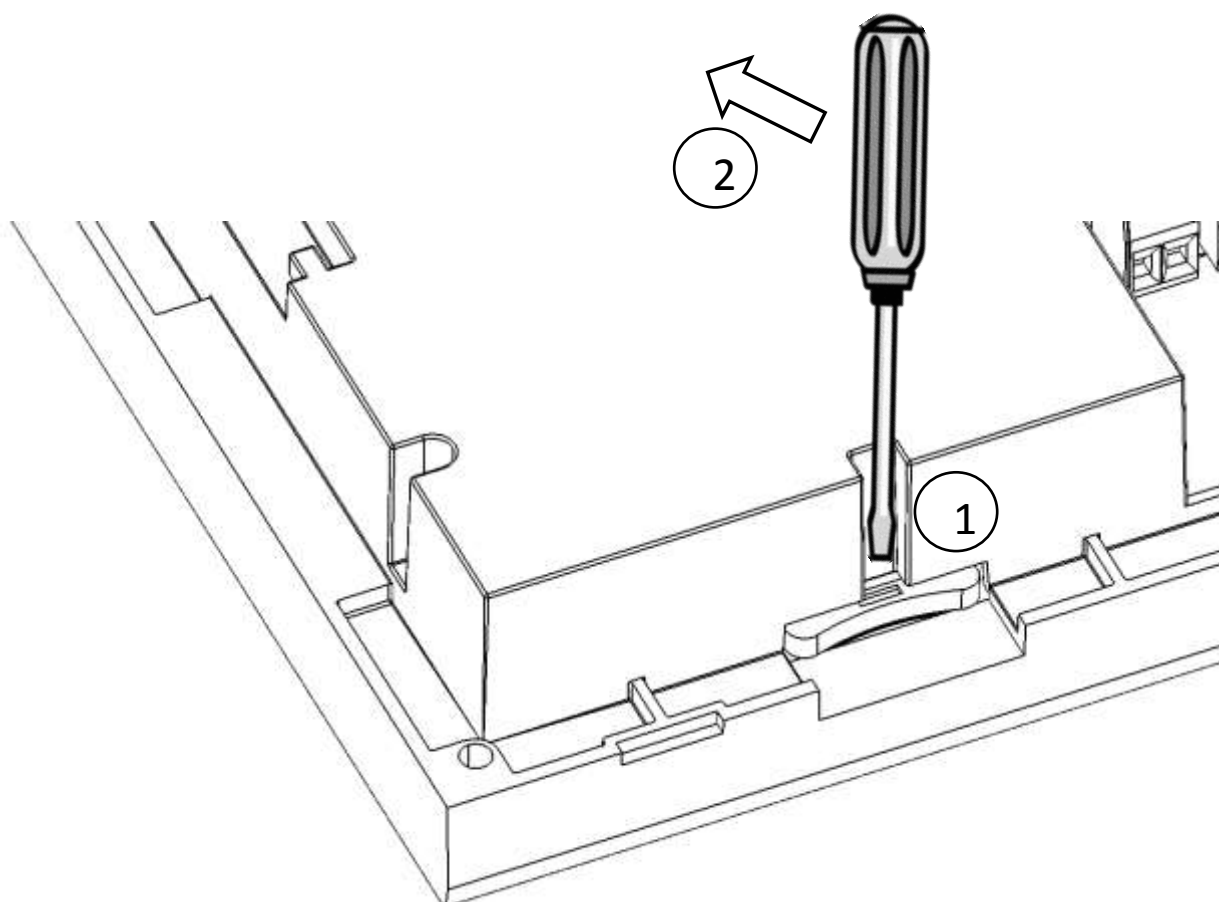

Figure 52 Change Backup Battery
To replace backup battery follow the steps as depicted in Figure 52
- Locate physical location of backup battery on rear side of panel as shown in Figure 3 and Figure 52
- Insert flat screwdriver into notch of battery glider and slide it out by levering screwdriver as shown in Figure 52